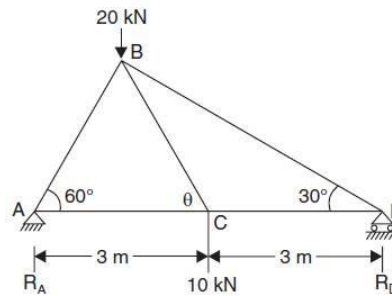

fig.32
5. Determine the forces in all the members of the truss shown in Fig.32 [10 M]